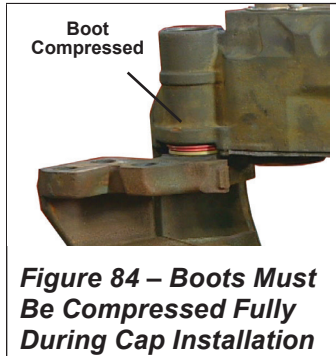

Figure 84 – Boots Must Be Compressed Fully During Cap Installation
- 4.6.38 See *Figure 84*. Place the caliper/carrier assembly on a bench so that the inner boots are fully compressed, check that the bores are clean and dry (e.g. free from lubrication).